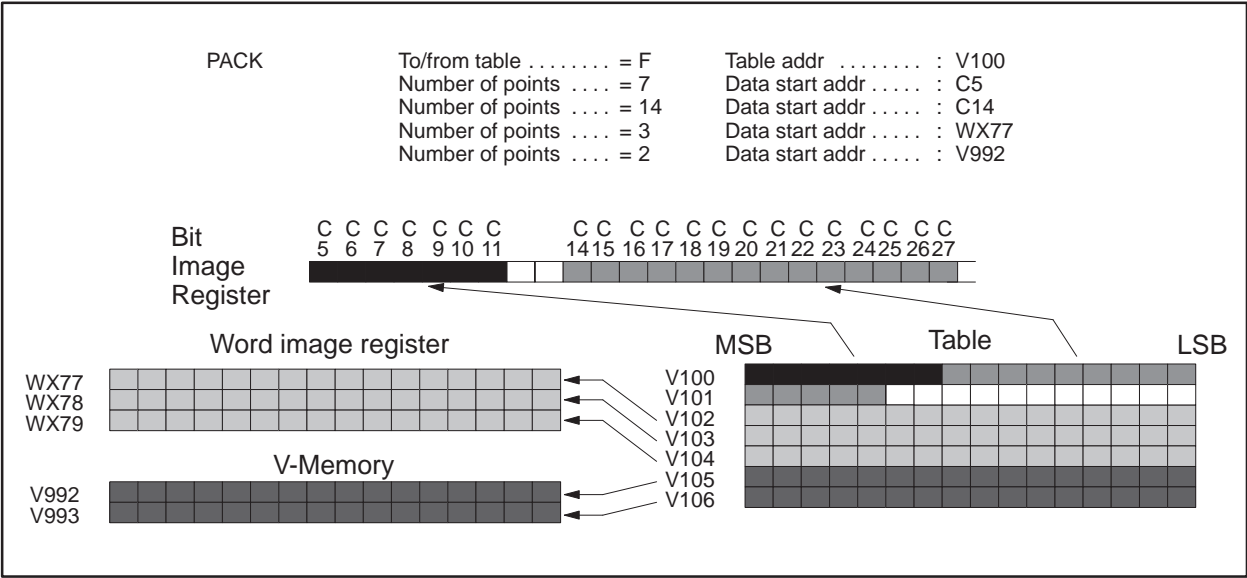

Figure 7-34 Example of PACKing Bits and Words from a Table
- You can PACK blocks of words and blocks of bits from a table with one PACK statement. See Figure 7-34. The data are packed according to these rules.